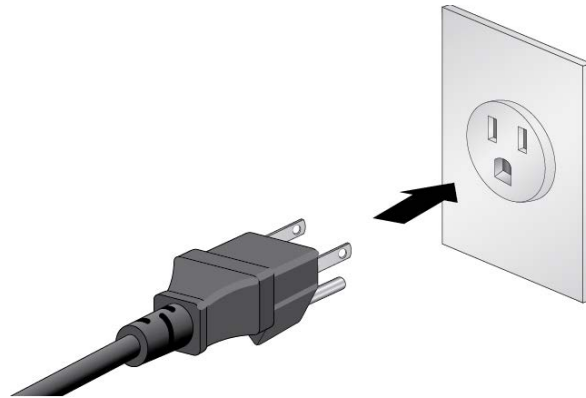

Figure 93. Connecting the Power Cord to an AC Power Source
3. Connect the power cord to an appropriate AC power source. The AC input voltage characteristic for the AC power supplies is 100 to 240V. Refer to Figure 93.